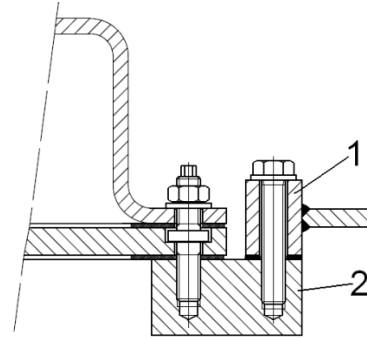
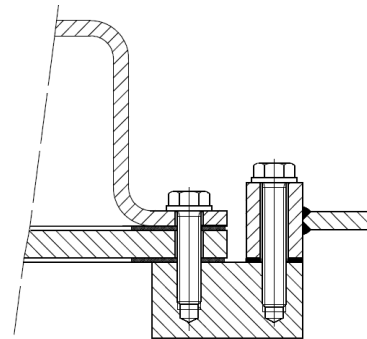

Figure 9a. Bottom-pull mounting arrangement with collar bolt.
Figure 9b. Bottom-pull mounting arrangement with standard bolts.
- Frame 1 is the mounting frame which is to be welded into the top plate of the sea chest (*item 1 of fig. 9a*)
- Frame 2 is used as an interface, to bolt the tube bundle to the mounting frame (*item 2 of fig. 9a*)
Fig. 9a shows the collar bolts and fig. 9b the standard bolts for the water cover.